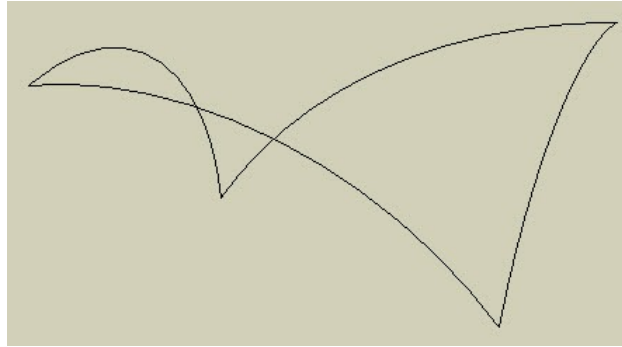

Figure 106. The 4 arcs after the lines and faces have been erased
- Figure 106 shows the remaining arcs.